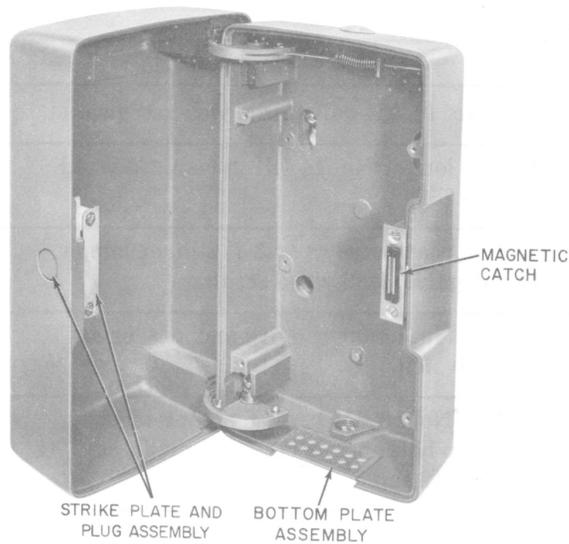

Fig. 1—526A Housing Assembly
2.06 526A Housing Assembly (Fig. 1):